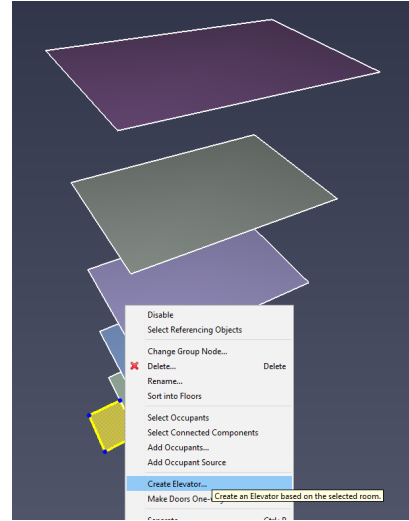

Figure 67. Select Create Elevator in right-click menu
3. Right-click the base room, and from the right-click menu, select **Create Elevator**, see Figure 67. This will show the **New Elevator** dialog as shown in Figure 68.